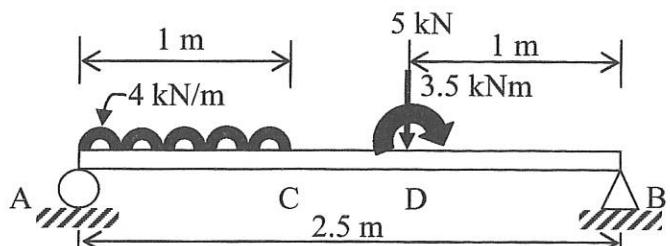

Figure 1 / Rajah 1
- (c) A simply supported beam with a span of 2.5 m is subjected to a uniformly distributed load and moment as shown in Figure 1.